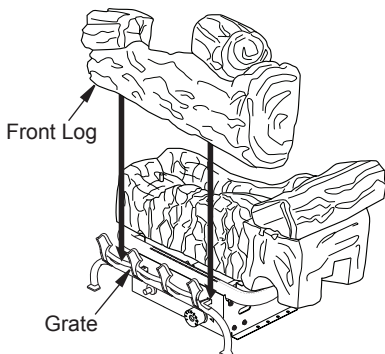

Figure 18 - Installing Front Log (#2)
2. Place front log onto grate. Log is notched to sit over grate (see Figure 18, page 16). Position holes on bottom of log over shoulder screws on base.